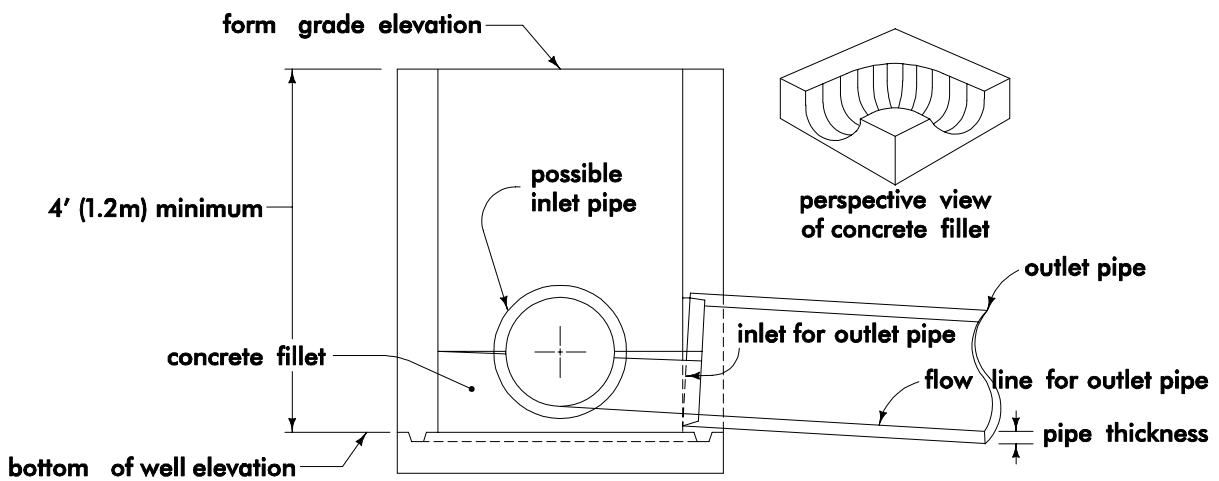

Figure 2: Depth of intake or utility access.
- Determine the intake or access depth needed for correct placement of the outlet pipe (pipe containing water flowing out of the intake or access). To do this, first subtract the thickness of the outlet pipe from the flow line elevation at the outlet pipe's inlet (see Figure 2). In most cases, the designer will need to wait until Column 14 on the worksheet ("flow line in") has been completed before completing this column. The thickness of the pipe is found on Standard Road Plan RF-1 (and in Table 1 of this section) using the pipe's type and diameter (Columns 10 and 12).